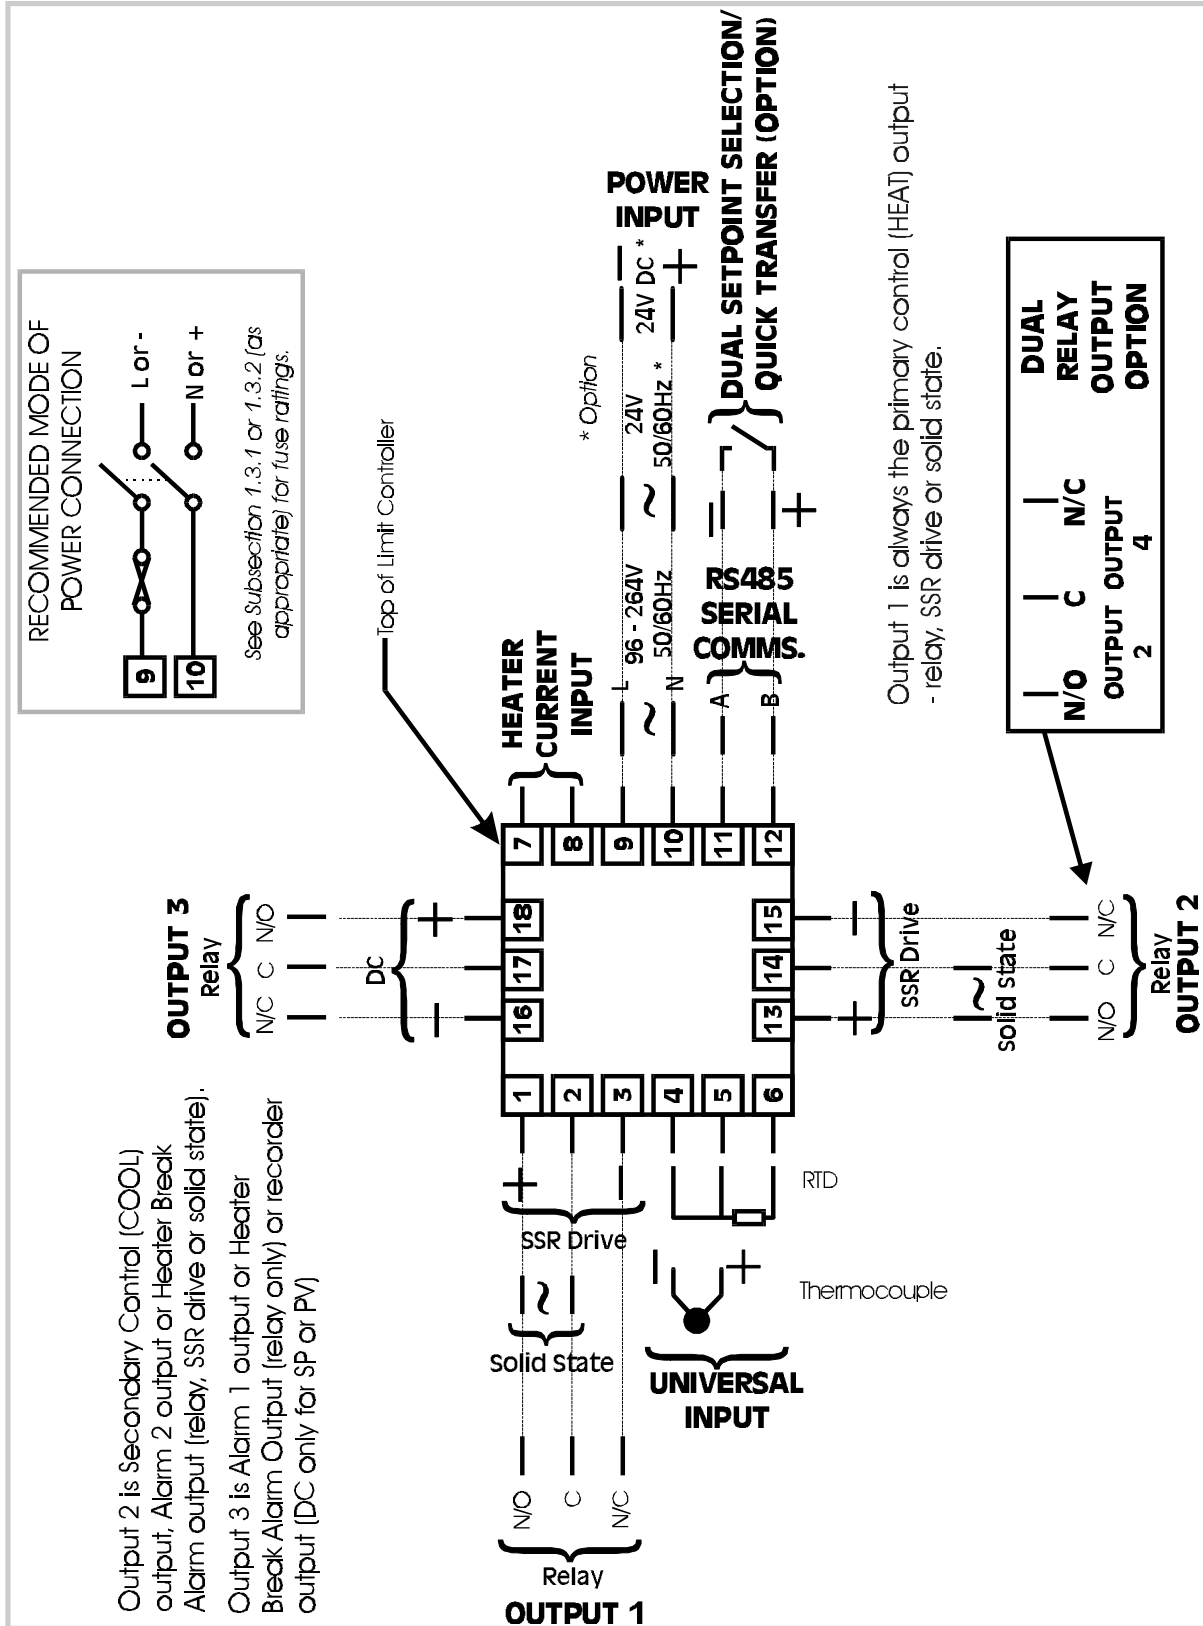
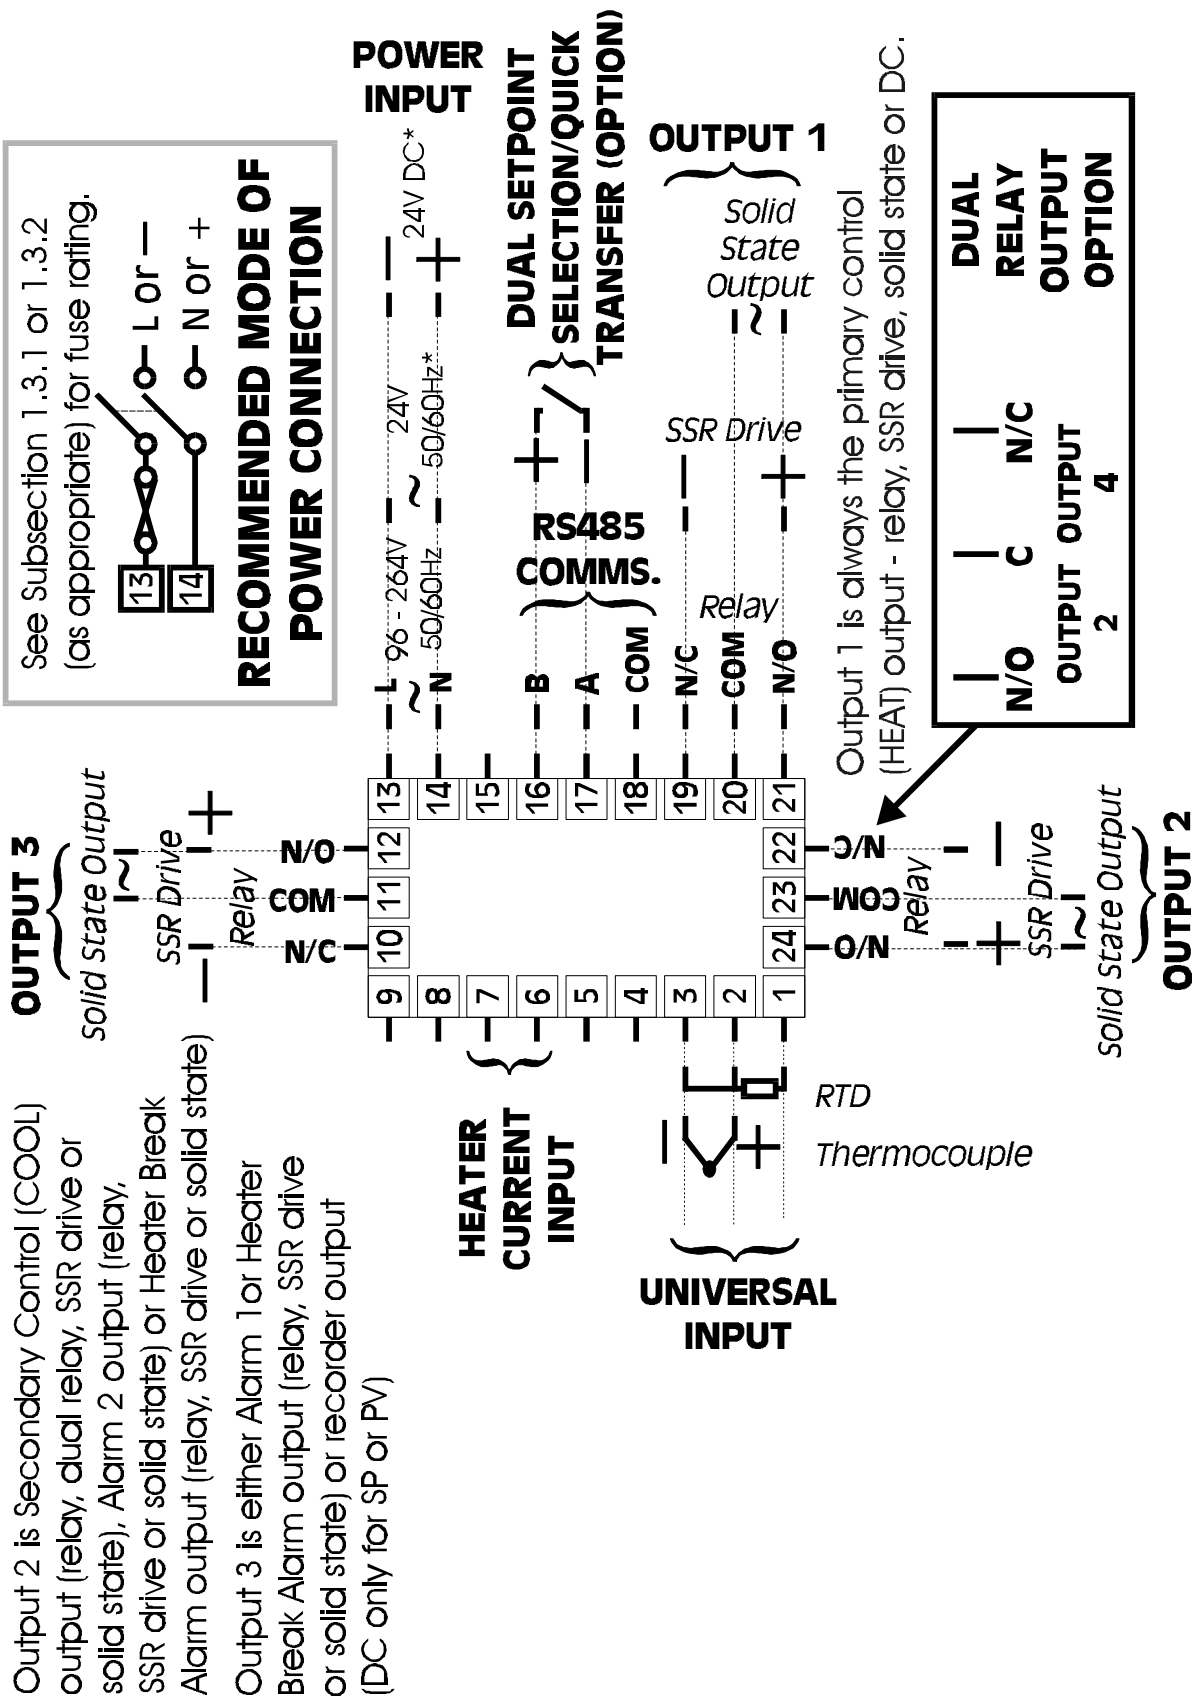

Figure 1-4 Rear Terminal Connections ( $\frac{1}{16}$ -DIN Controllers)
Figure 1-5 Rear Terminal Connections (1/8-DIN Controllers)
The rear terminal connections are illustrated in Figure 1-4 ( $\frac{1}{16}$ -DIN Controllers) and Figure 1-5 ( $\frac{1}{8}$ -DIN Controllers).
**CAUTION:** This equipment is designed for installation in an enclosure which provides adequate protection against electric shock. Local regulations regarding electrical installation should be rigidly observed. Consideration should be given to prevention of access to the power terminations by unauthorised personnel. Power should be connected via a two-pole isolating switch (preferably situated near the equipment) and a 1A fuse, as shown in Figures 1-4 and 1-5.
The supply connections for the 24V AC/DC option of the Controller are as shown in Figures 1-4 and 1-5. Power should be connected via a two-pole isolating switch and a 315mA slow-blow (anti-surge Type T) fuse.